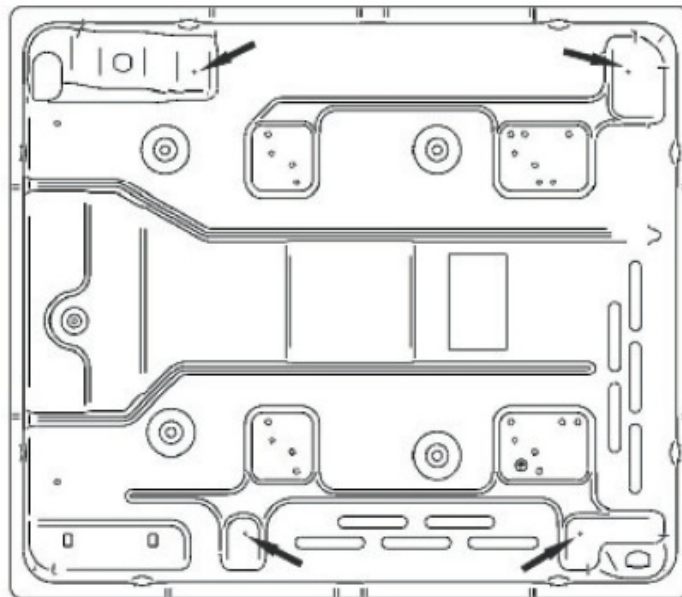

Fig. 1C
- Use the 4 clamps and 4 screws supplied in the parts bag. To assemble, attach the 4 clamps to each corner of the Burner box via the screws provided (Fig.1C).Position the cooktop so it is centred, then swing the Clamps under the benchtop and tighten.